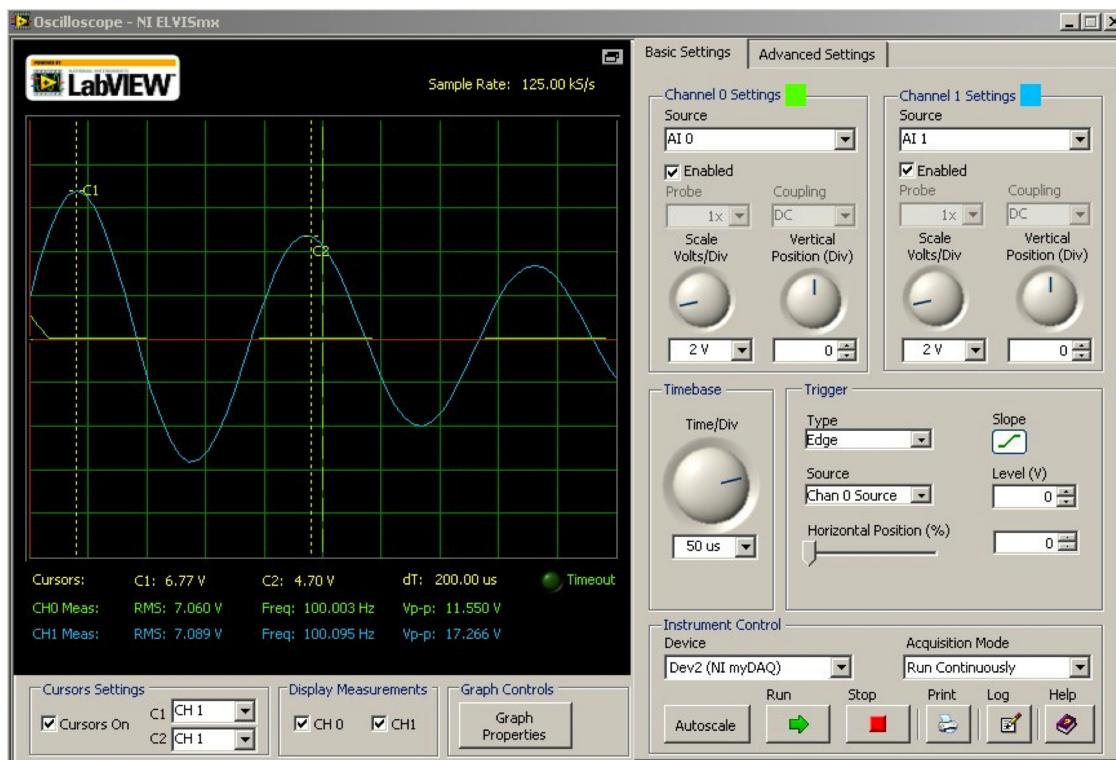

Figure 5: Scope Measurements
4. Position the cursors at the tops of the first two peaks, as shown in Figure 5.